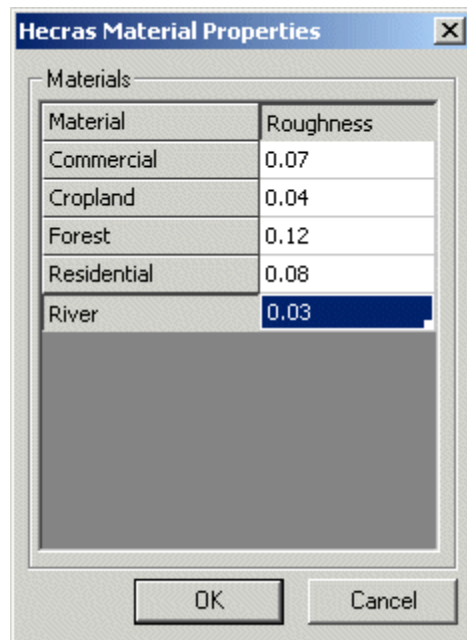

Figure 15.7 HECRAS Material Properties Dialog
44. Enter the roughness values for each material as shown in Figure 15.7.